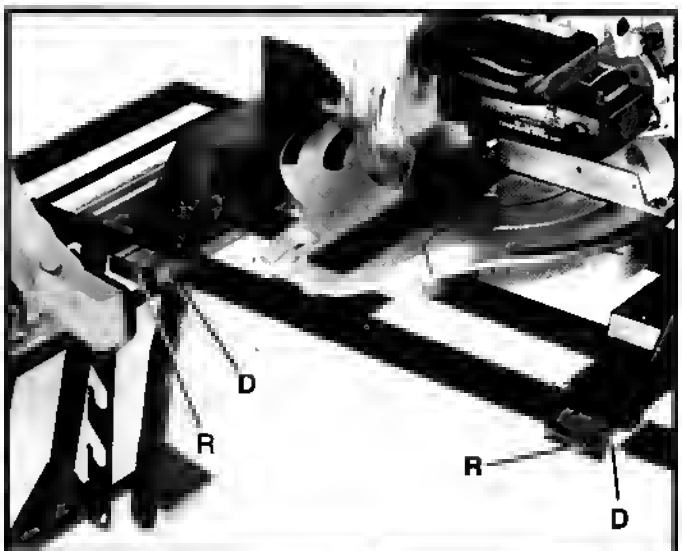

Fig. 37
9. Using a hammer and a block of wood or a rubber mallet, fasten one end cap (R) Fig. 37, to each end of both mounting rails (D) as shown. **NOTE: To avoid damage to the mounting rails, DO NOT use a hammer directly against the end caps.**